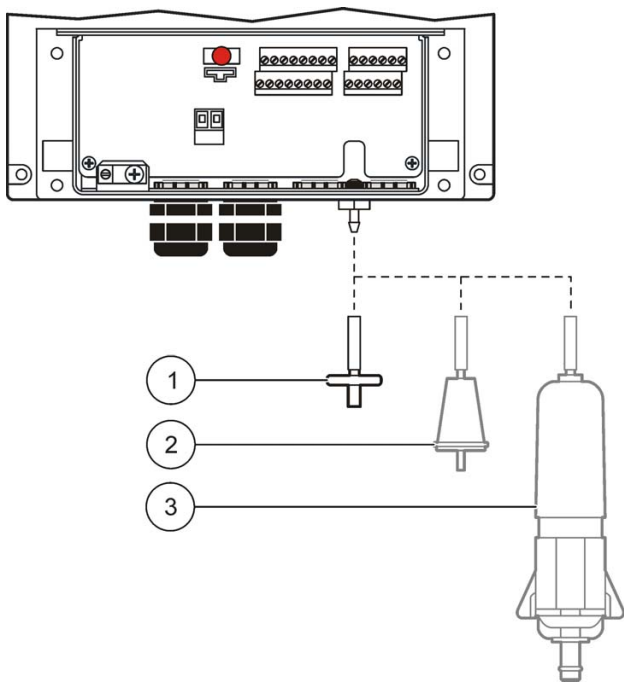

Figure 10 Desiccant cartridges
- 1. Remove the hydrophobic filter and attach the desiccant cartridge to the APR port (Figure 10).